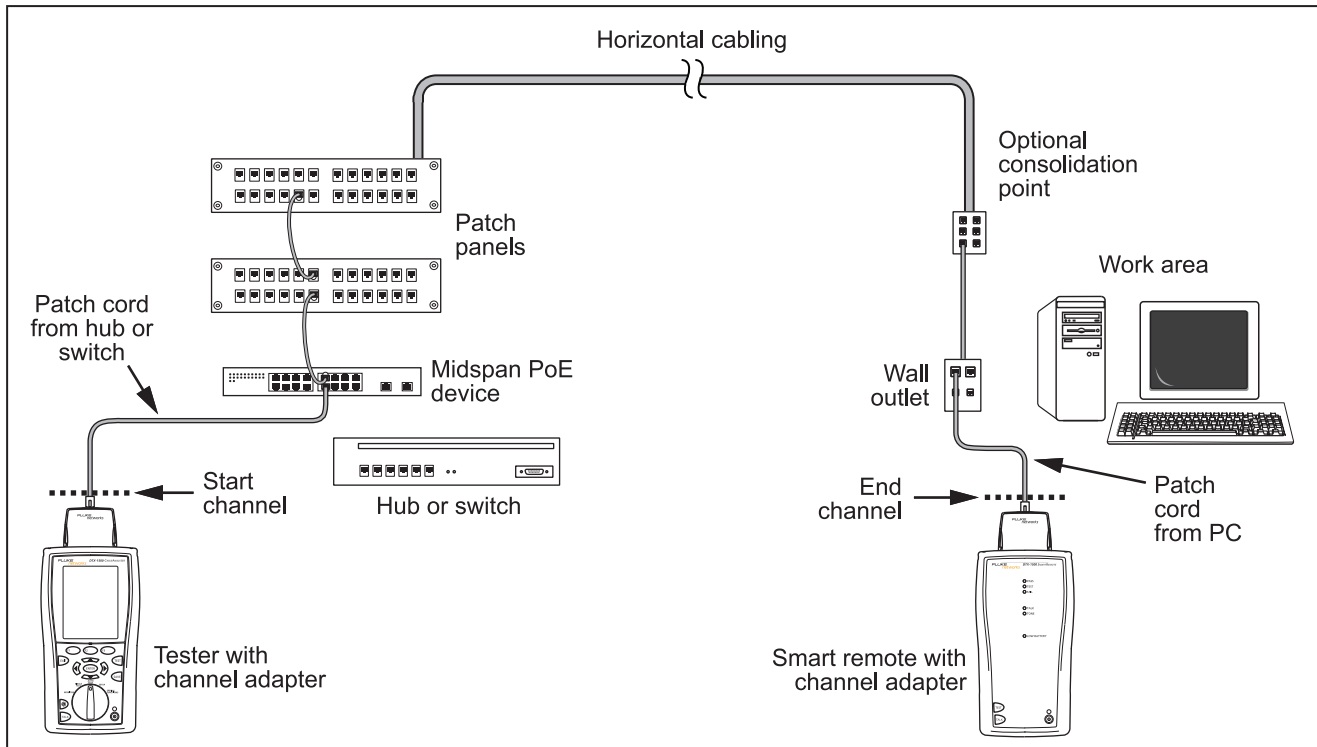

Figure 4-1. Testing a Channel Through a PoE Device
- 2 Connect to the cabling as shown in Figure 4-1.